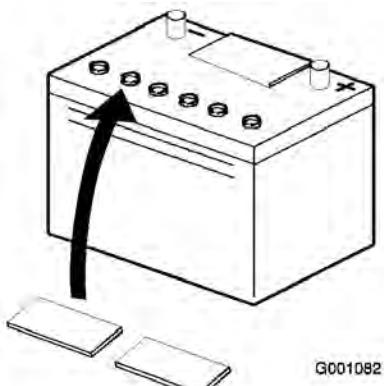

Figure 5
3. Clean the top of the battery and remove the vent caps (Figure 5).
6. Install the battery vent caps (Figure 5).